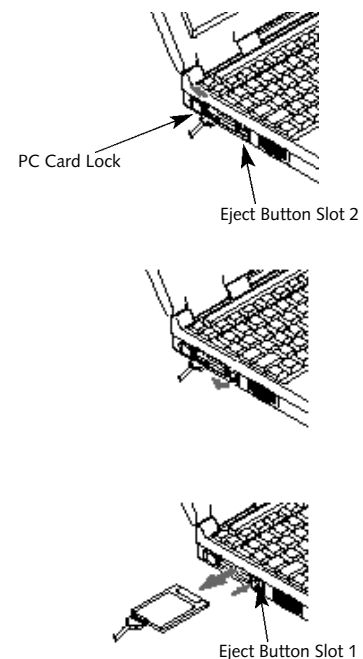

Figure 4-10 Installing and Removing a PC Card
3. Insert the PC Card in the card slot, with the product name label facing up. (Figure 4-10.)
6. When the card is installed, lock it in place by sliding the Lock button toward the front of your notebook. (Figure 4-10.)